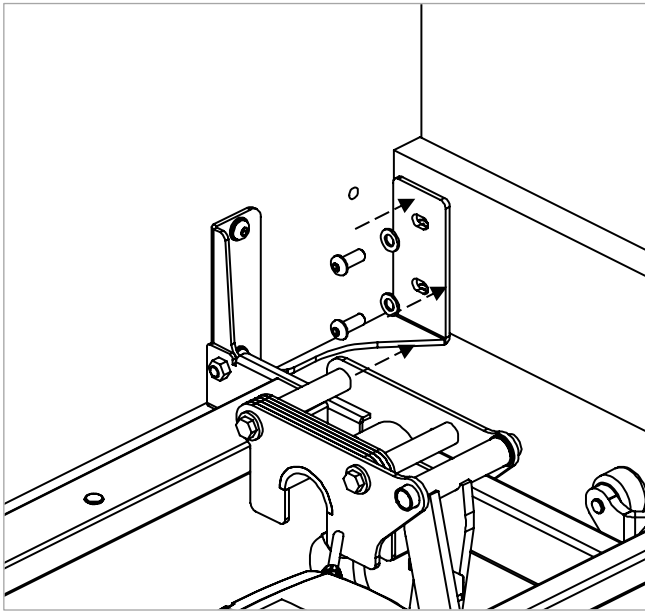

Figure 9.7
- Fit each side panel to the side panel end brackets with the M6 x 20mm bolts and M6 washers as shown in Figure 9.7. Leave the bolts slightly loose.